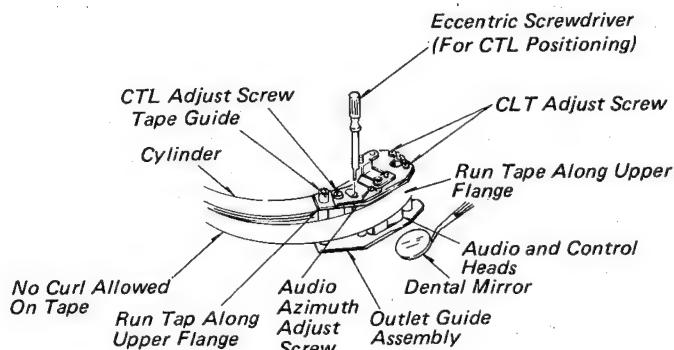

Fig. 5-84 Tape Transport Adjustment A.
- b. Tighten the nuts ③ and ④ little by little until the envelope waveform is made flat and so that curl may be minimized (see Figs. 5-84, -88).
- d. Check the tape path once again, with a dental mirror, if the deviation level is high. (see Figs. 5-84, -85).
(5) Audio Azimuth Adjustment
Adjust to obtain the maximum audio level by rotating the audio azimuth adjustment screw. (see Fig. 5-84).
(6) CTL Position Adjustment (see Fig. 5-84)